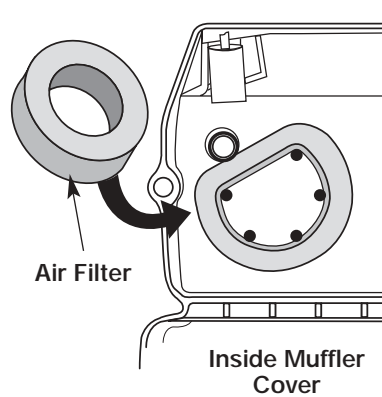

Fig. 35
2. Turn cover over and look inside to locate the air filter. Remove the air filter from inside the air filter/muffler cover (Fig. 35).
6. Replace the air filter inside the air filter/muffler cover (Fig. 35).